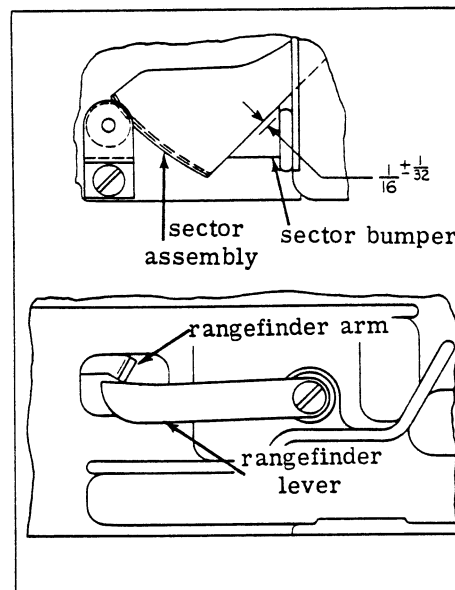

Figure 10A. Lever & Sector Assembly
- a. If two rangefinder windows (26) have been removed, recement in place, using Cordo #2055 adhesive.
- b. Insert two window retainers (25).
- c. Assemble sector assembly (18), lock washer (17), rangefinder lever (15) and machine screw (16).
- d. Assemble pinion (14), pinion spring (13), pinion bracket (10), machine screw (12) and machine nut (11).
**NOTE:** Tighten machine screw (12) and then tighten machine nut (11).
- e. Tighten machine screw (16).
- g. If sector bumper (9) has been removed, apply 3M EC-880 adhesive and assemble bumper as illustrated in figure 10A.
- h. Assemble rangefinder arm shield (7) and machine screw (8).
- i. If two battery contact plate insulators (6) have been removed, apply 3M EC-880 adhesive to insulators and assemble in place.
- j. Assemble insulator (5) and circuit plate complete (3), using two thread cutting screws (4). Apply 3M EC-880 adhesive to the two housing bosses and assemble battery contact plate assembly in place.
- k. Apply 3M EC-880 adhesive to housing and assemble guard (2).
- m. Apply 3M EC-880 adhesive to the two housing bosses and assemble battery partition (1).